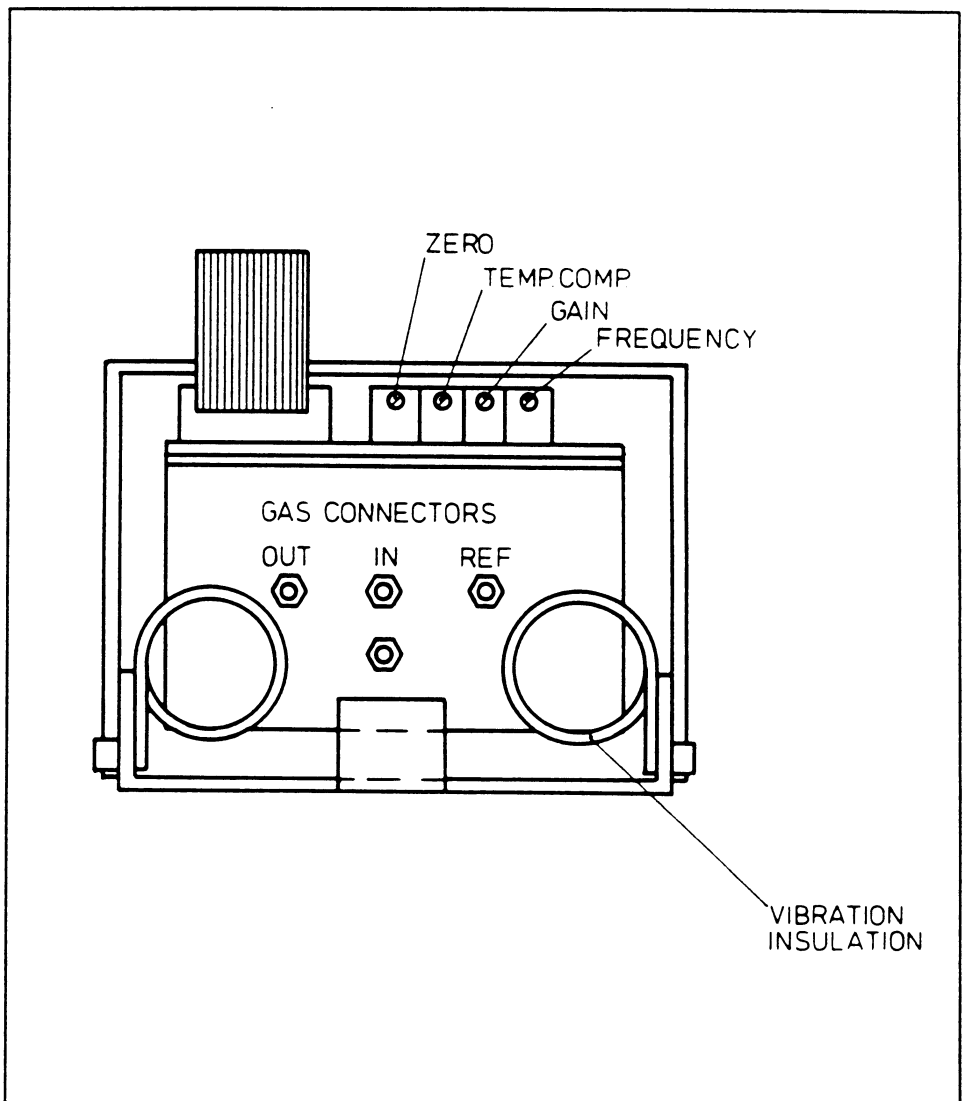

Figure 14 O₂ Measuring Unit Adjustments
- b) Let the monitor draw in room air and adjust the voltage to zero with the O₂ measuring unit trim resistor designated 'ZERO' (see Figure 14) in the O₂ module PC board. The potentiometers are located at the same side of the measuring unit as the tubing connectors.
- b) Sample 100 % oxygen and adjust the measuring unit output to between 7.7 V and 8.3 V with the trim resistor designated 'G' (see Figure 14).